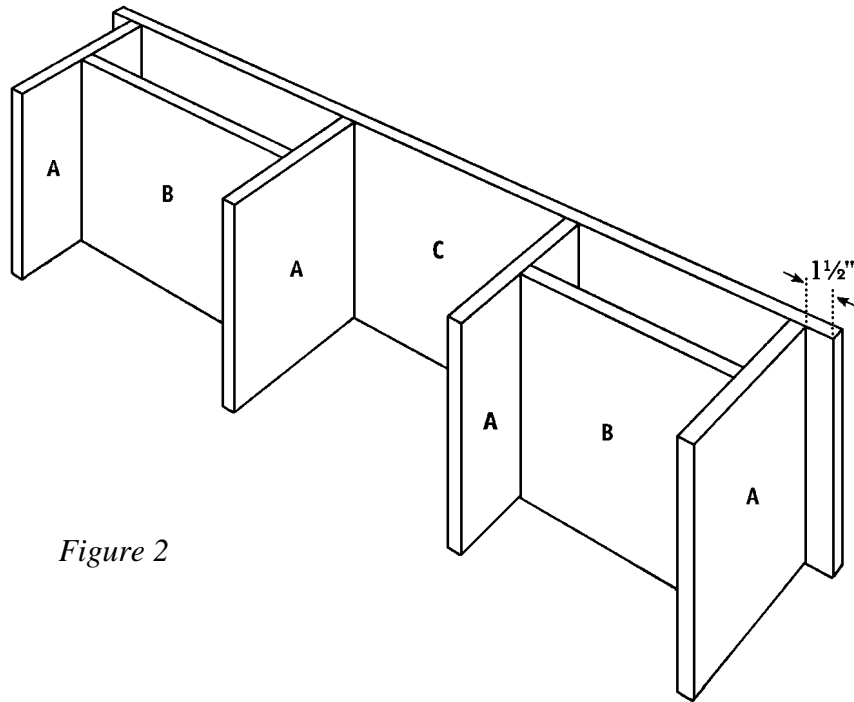

Figure 2
- Cut two Top/Bottoms (C) from 1 x 12 pine, each measuring 38 inches.
- Place one Top/Bottom (C) on edge, on a flat surface. Place one shelf assembly (A and B) 1-1/2 inches from one end of the Top/Bottom (C), as shown in *Figure 2*. Apply glue to the meeting surfaces, and screw through the Top/Bottom (C) into the ends of the Vertical Dividers (A). Use three 1-5/8" wood screws on each joint.
- Repeat Step 2 to attach the remaining shelf assembly (A) and B) 1-1/2 inches from the opposite end of the same Top/Bottom (C).
- Center the remaining Top/Bottom (C) over the assembly. It should overhang the outermost Vertical Dividers (A) by 1-1/2 inches on both ends. Apply glue to the meeting surfaces, and screw through the Top/Bottom (C) into each of the Vertical Dividers (A). Use three 1-5/8" wood screws on each joint.